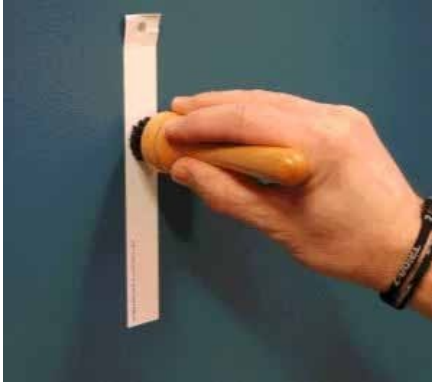

Figure 3. Adhering Product Strips
3. In a circular motion with firm pressure, move the RBA-1 rivet brush up and down the applied strips. Go over each strip three times to firmly adhere it to the wall. See Figure 3.